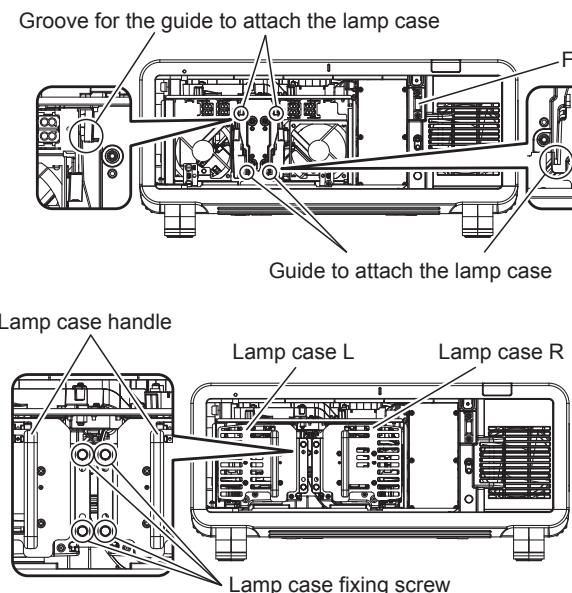

Fig. 1
3) Attach the lamp case. (Fig. 1)